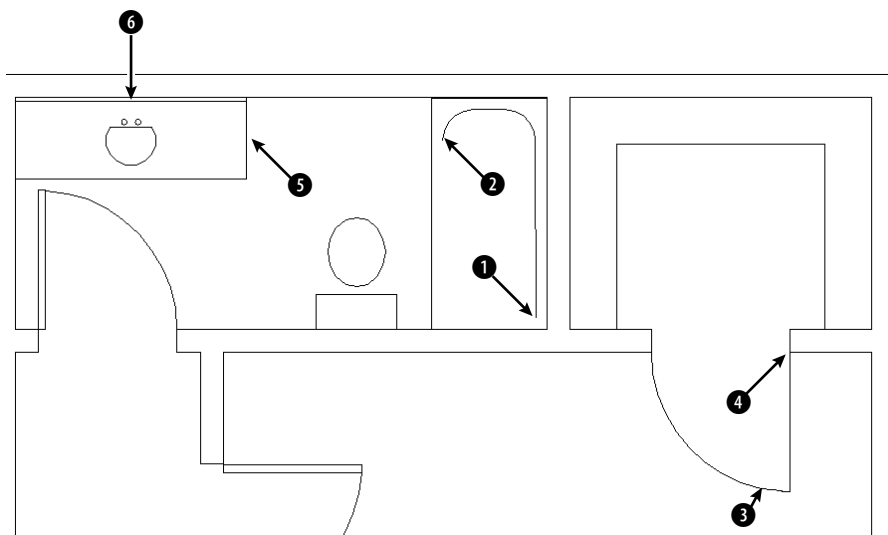
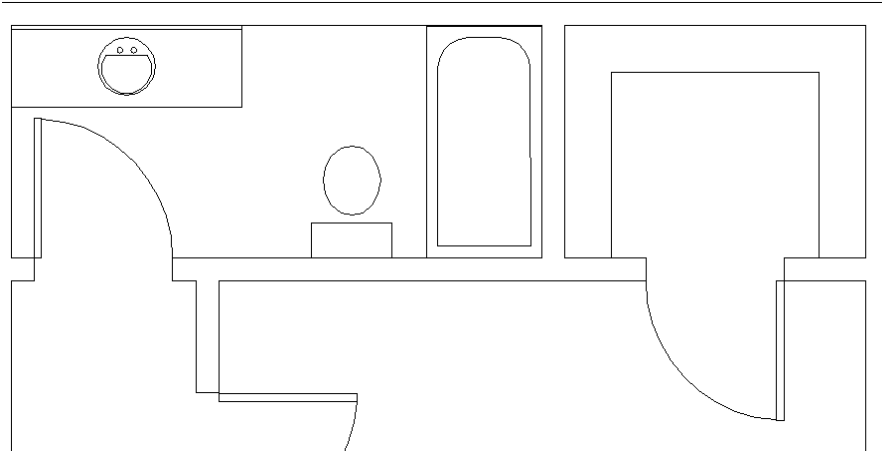

**Figure 4-29:** The tub, door, and sink to be completed in this plan layout.
**Figure 4-30:** The completed drawing.
3. Start the LINE command. At the Specify first point: prompt, pick the endpoint at ❶ in Figure 4-29. Be sure to pick on the endpoint itself, in order to acquire it.
4. At the Specify next point or [Undo]: prompt, pass the cursor over ❷. Move the cursor down a little, and you see the small plus sign showing that this endpoint has been acquired.
5. Move the cursor down until it is to the left of ❶ and vertical to ❷. When you see the tooltip (reading Endpoint: < 270°, Endpoint: < 180°) and the small x marking the intersection of the two points, click to end the line segment.
6. At the Specify next point or [Undo]: prompt, click at ❷ and end the LINE command.
7. Start the **LINE** command again. At the **Specify first point:** prompt, pick the endpoint of the arc at ③ in Figure 4-29. If you're not sure that you found the right endpoint, press **Tab** until the arc is highlighted. Make sure that you've acquired the endpoint by clicking the endpoint itself or passing the crosshairs over it.
8. At the **Specify next point or [Undo]:** prompt, pass the cursor over ④ until you see the small plus sign. Move the cursor slightly to the left until you see the tooltip (reading **Endpoint: < 90°, Endpoint: < 180°**) and click.
9. At the **Specify next point or [Undo]:** prompt, pick the endpoint at ④ and end the **LINE** command.
10. Start the **CIRCLE** command. At the **Specify center point for circle or [3P/2P/Ttr (tan tan radius)]:** prompt, pass the cursor over ⑤ and then over ⑥ to acquire both midpoints.
13. Save your drawing. It should look like Figure 4-30.